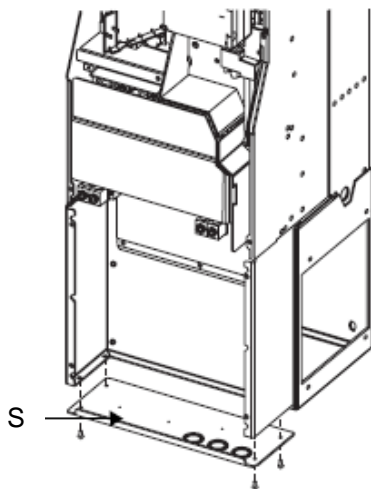

Figure 16
Step8: Install the conduit plate (S) with M4 screws. The knockouts provided are for control cables. Use either a hole saw or a punch to cut entries for power cables. See figure 16.